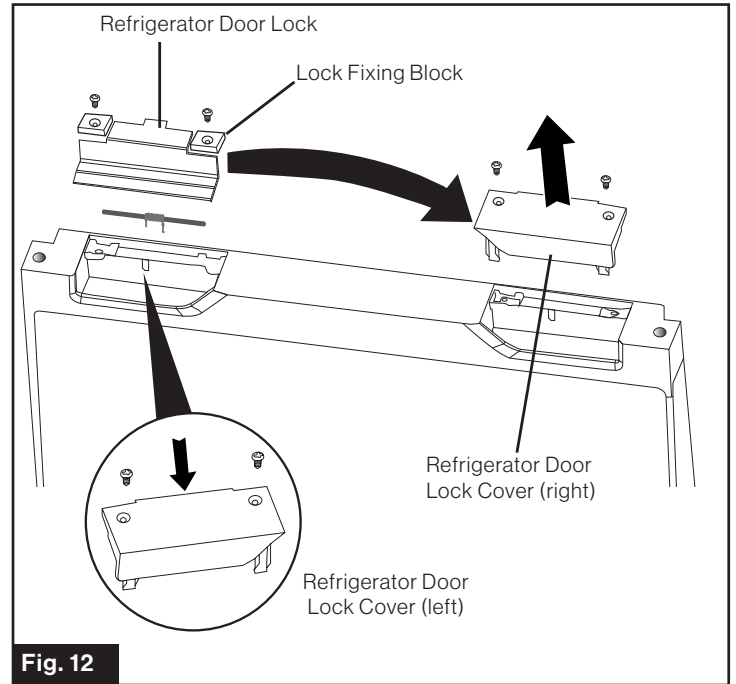

Fig. 12
4. Remove the Refrigerator Door Lock Cover (right) and save it for future use. Change Refrigerator Door Lock and Lock Fixing Blocks to the opposite side. Install the left side Refrigerator Door Lock Cover, provided as an accessory with the unit, where the door lock was. (Fig. 12)